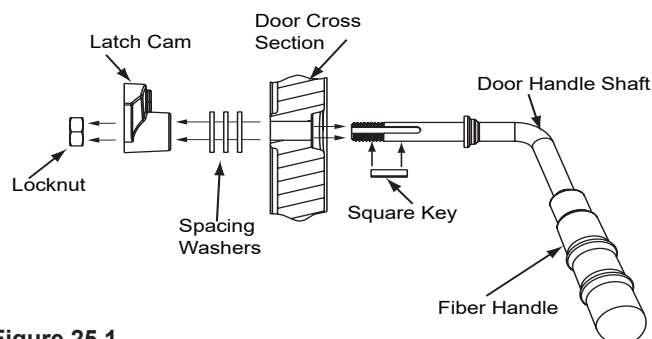

Figure 25.1
2. Install additional washer(s) as shown in **Figure 25.1**
6. Install fiber handle (**Figure 25.1**).